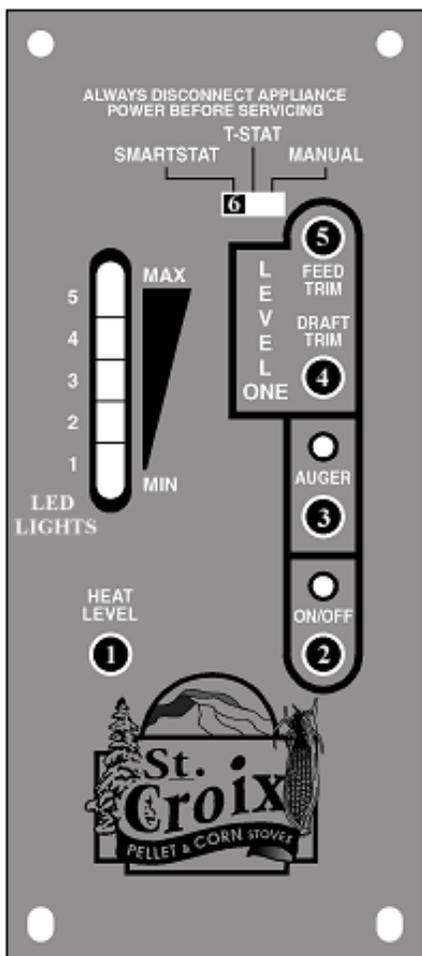
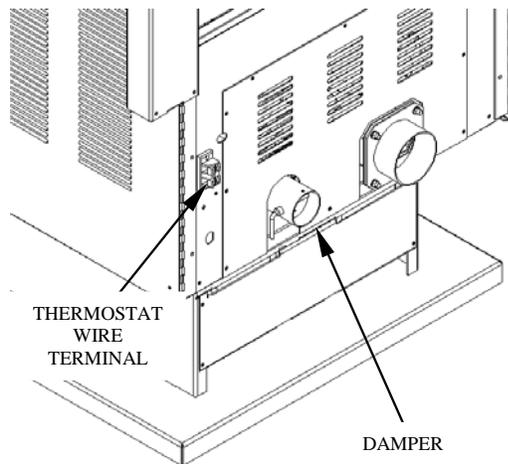

Figure 2
Figure 3
The Prescott is approved to burn a mixture of pellets and corn (maximum 50% corn). The Thermostat Switch should be set to the Manual position. (See Fig. 2 on page 5) Operation of the stove doesn't change when burning a mixture of pellets and corn. The burn pot will need to be cleaned on a daily basis, using the "Pot Scraper Tool" shown in figure 3 on page 9. Use the Pot Scraper Tool to remove any clinkers that build up because of the corn when needed. For more information, read the Daily, Periodic and Yearly Maintenance section towards the back of this manual.
A closer look at the Control Board on page 5, in figure 2 will explain how the board works. There are five buttons labeled 1 through 5, a slide switch labeled 6 and a LED Light bar with 5 Heat Settings. ***The LED Light bar is also used during the Diagnostic process, see page 6 and 7 for more details.***
The buttons on the board function as follows: (*Refer to Figure 2. The touch pad buttons and Slide Switch are labeled with the white numbers 1 through 6*)
Lighting Your Stove. (Refer to Figure 2)
Shutting The Stove Off (*Refer to Figure 2*)
The #2 LED and the #3 LED lights on the LED Light bar as show in Figure 2 will flash to give a
1. The **Proof of Fire** switch. This switch will sense the temperature of the Exhaust rising during start up. If the Exhaust temperature does not reach 110 degrees F, or if during use the temperature drops below 110 degrees F, the Stove will go into **“Internal Alarm”** and the Auger will quit feeding fuel. Once the stove completes the safety shutdown, the #3 LED will start blinking. (See Figure 2 on Page 5 and point 3 on page 15)
2. The **High Limit** switch. This sensor will sense if the unit reaches temperatures that are too high for normal operation. If this happens the Auger will quit feeding and the #2 and #3 LED lights will flash simultaneously. (See Figure 2 on Page 5 and point 4 on page 16)
3. The **Vacuum** Switch - For the stove to operate, the Firebox needs to be sealed. During the first 30 seconds after the stove has been turned on the Control Board will check if the switch senses negative pressure (Vacuum) in the Firebox of the stove. If there is no negative pressure, the stove will shut down and the #2 LED will start blinking. (See Figure 2 on Page 5 and point 2 on page 15).